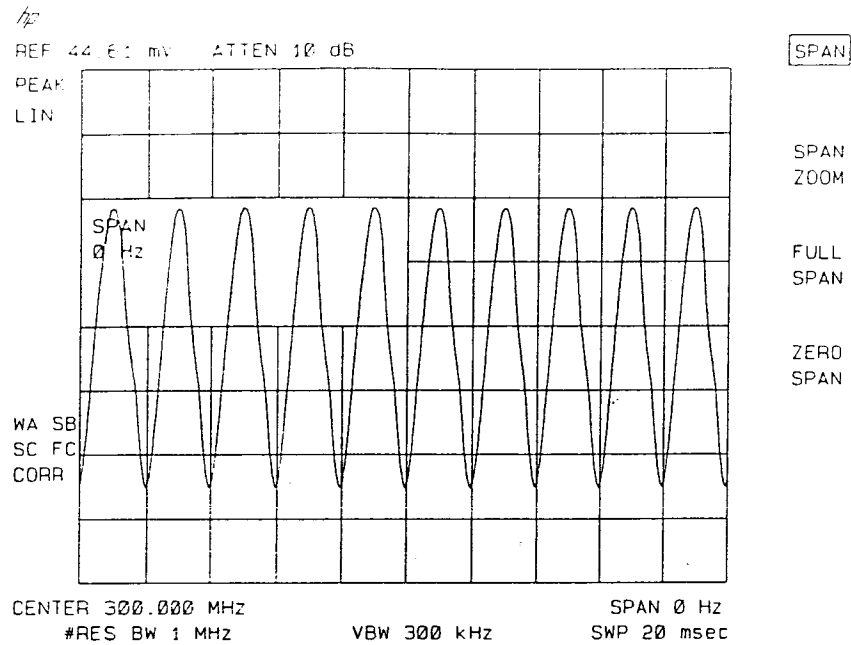

Figure 2-27. Measuring Modulation In Zero Span
5. To select zero span, either press **[SPAN]**, **0 [Hz]** or press **ZERO SPAN**. See Figure 2-27. If the modulation is a steady tone (for example, from a signal generator), use video trigger to trigger on the waveform and stabilize the display. Adjust the sweep time to change the horizontal scale.